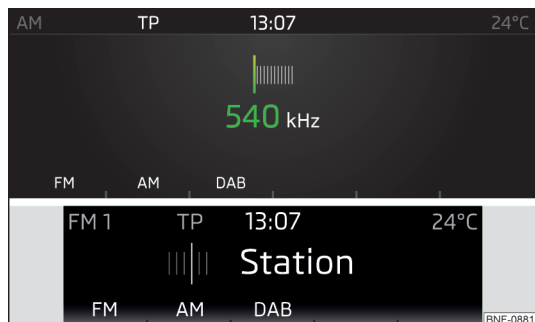

Fig. 100
- In the *radiomain* menu press the button  and the corresponding function button **FM**, **AM** or **DAB**. Press » Fig. 100